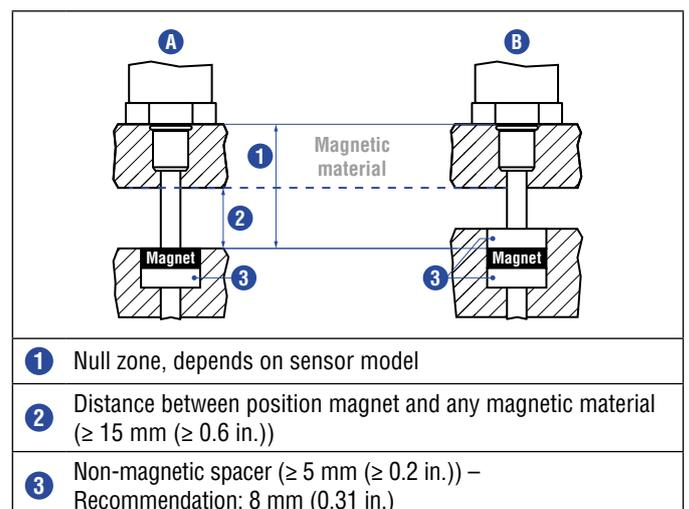

Fig. 70: Installation with magnetic material
- Minimum distance between position magnet and any magnetic material has to be 15 mm (0.6 in.) (Fig. 70).
- If no other option exists and magnetic material is used, observe the specified dimensions (Fig. 70).
When using magnetic material the dimensions of Fig. 70 must be observed.